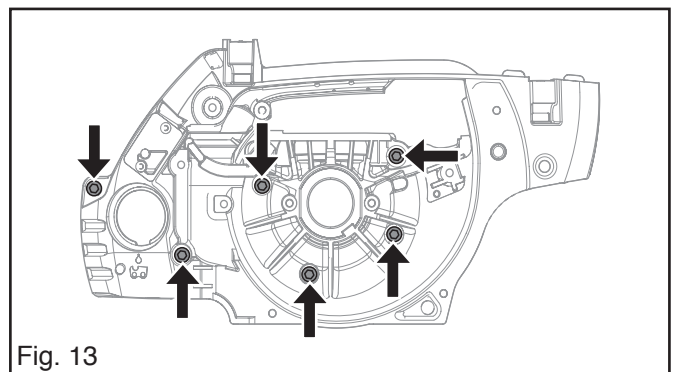

Fig. 13
6. Fit the six bolts. Tighten them alternately. Tighten them finally to 8 Nm. See fig. 13.